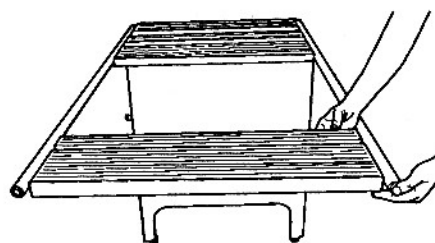

Fig. A-22
24. To install the remaining three screws, repeat Steps 22 and 23. Finger tighten only. Fig. A-22 shows one of the fixed extension tables installed.